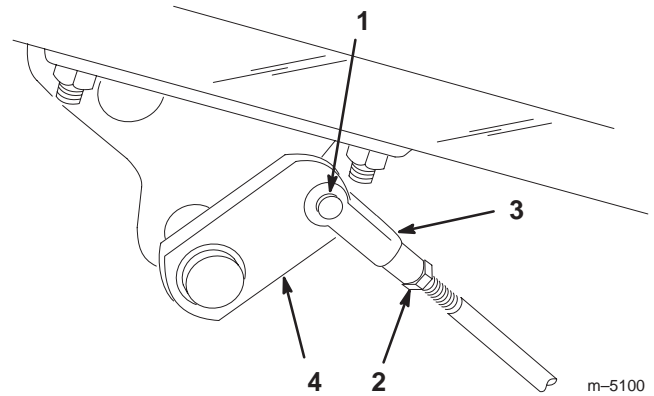

Figure 51
2. If the brakes do not lock equally, disconnect the brake rods by removing the cotter pin and clevis pin (Fig. 51).
3. Loosen the jam nut and adjust the clevis accordingly (Fig. 51).
4. Assemble the clevis to the brake shaft (Fig. 51).